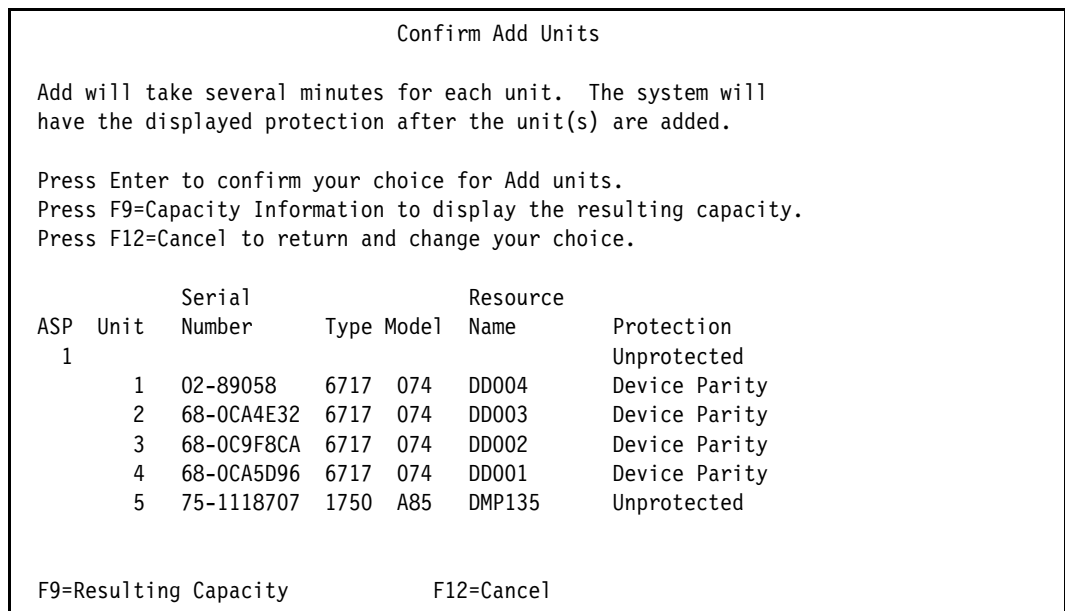

Figure 18-24 Confirm Add Units
5. You are presented with a confirmation screen as shown in Figure 18-24. Check the configuration details and if correct, press Enter to accept.